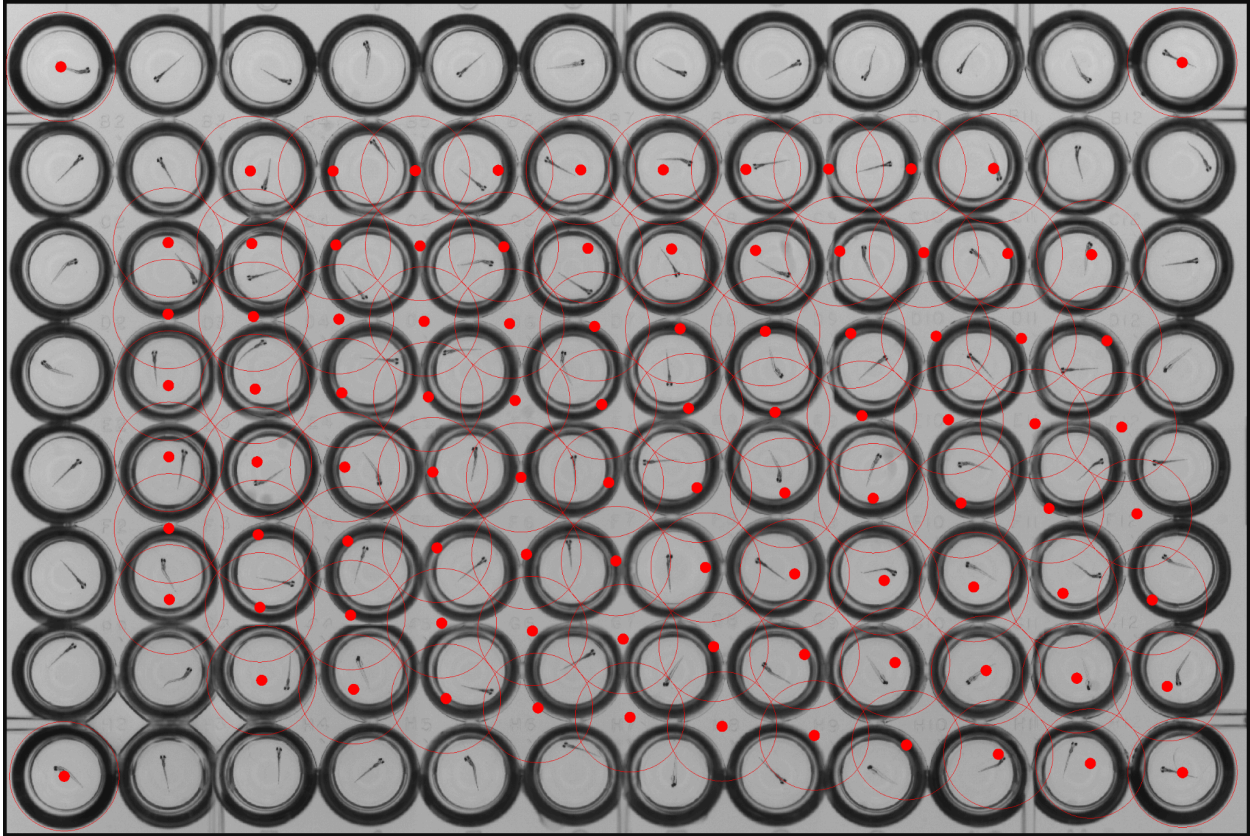

Fig 29: Well Alignment corrected initial guess.
- 5) To correct this initial guess, only the four corners must be repositioned. Double click on the center point of a corner circle and drag the circle over a corner well until it lines up with the outer edge of the well. This is shown in the top left corner of the image below (Fig 29).